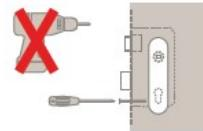

Figure 6 - Do not use excessive force or power tools
12. If the cylinder has a sacrificial snap point as part of its security feature, care must be taken when fixing the retaining screw. Excessive force from a power screwdriver or battery drill will apply pressure between the cylinder and the lockcase that may bend the cylinder out of alignment and impact its operation (Figure 6).